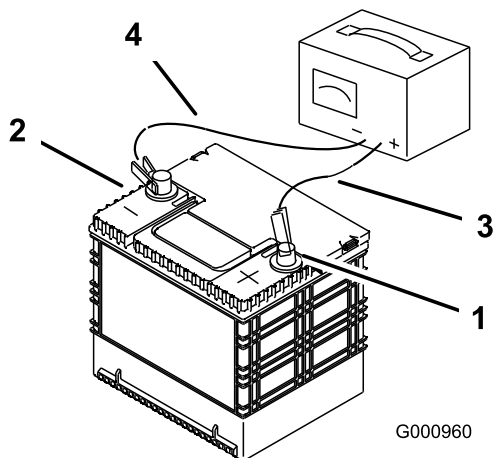

Figure 58
2. When the battery is fully charged, unplug the charger from the electrical outlet, then disconnect the charger leads from the battery posts (Figure 58).